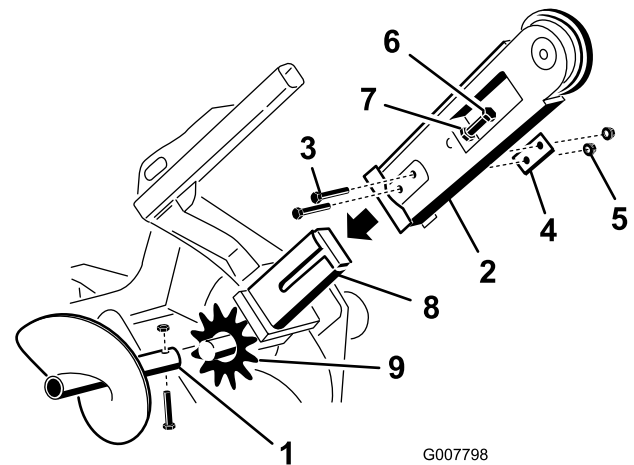

Figure 3
2. Remove the bolt and nut securing the spoils auger and remove the auger (Figure 3). Save the bolt and nut for future use.
3. Remove the 2 bolts, nuts, and double washers from the sides of the boom (Figure 3).
4. Loosen the adjusting bolt and jam nut (Figure 3).